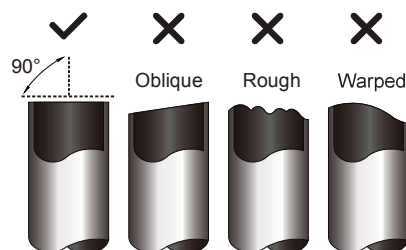

Fig. 6.1
- 3) Make sure that the pipe is cut at a perfect 90° angle. Refer to Fig. 6.1 for bad cut examples.